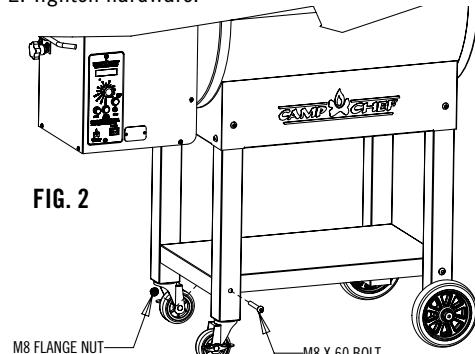

FIG. 2
1. Install bottom shelf as shown in Fig. 2 by installing hardware in each of the 4 corners.